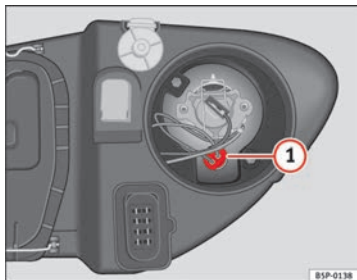

Fig. 185 Side lights
- Extract the bulb holder ⇒ fig. 185 **1** outwards.